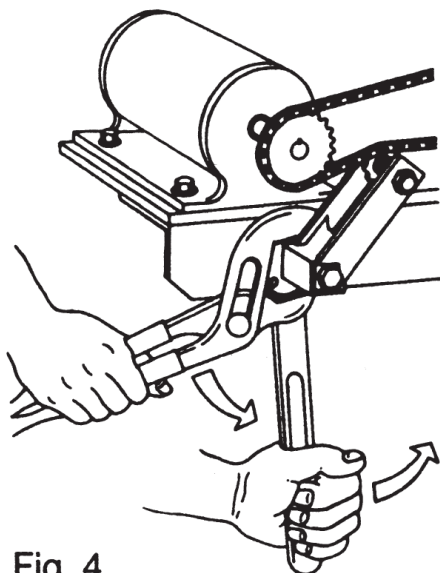

Fig. 4
- ◆ Apply pressure to the hex portion of the tensioner in the appropriate direction until the chain or belt is properly tensioned. (Fig.4)